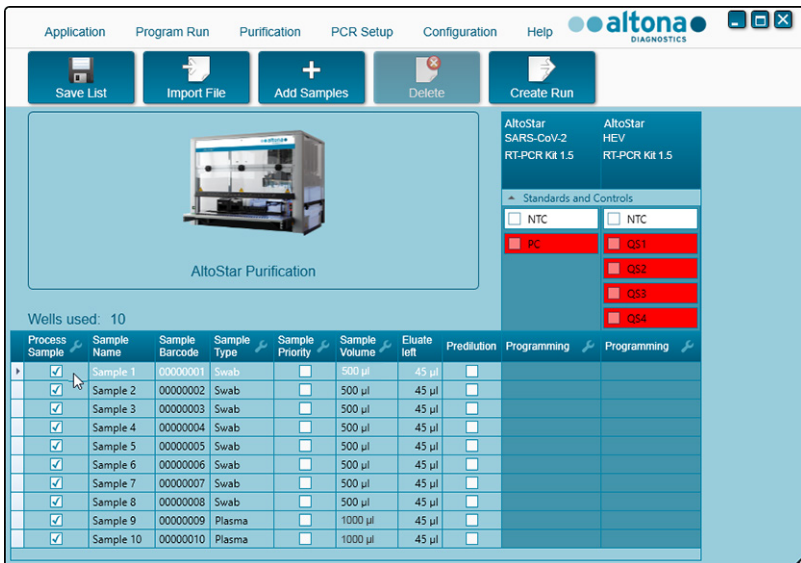

Figure 6: Programming Screen with added samples
10. When all samples are added, click the **Close** button to close the **Add Samples** dialog. The added samples are displayed in the sample table of the Programming Screen (see Figure 6).
- Above the sample table in the Programming Screen (see Figure 6), **Wells used** is displayed (showing the number of the AltoStar® Processing Plate wells needed for processing of the samples currently ticked in the column **Process Sample**).